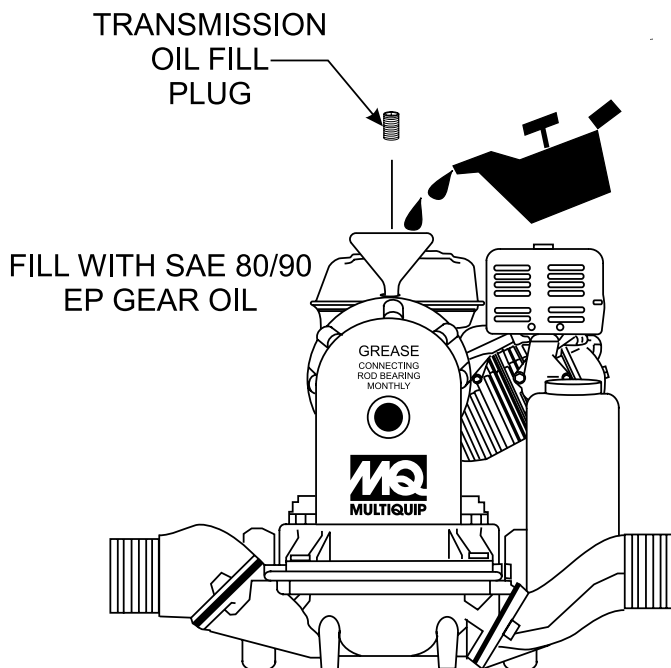

Figure 7. Transmission Oil Level
1. Remove the transmission oil level plug (Figure 7). If oil begins to seep out as the plug is being removed, then it can be assumed that the transmission oil is at the proper operating level.